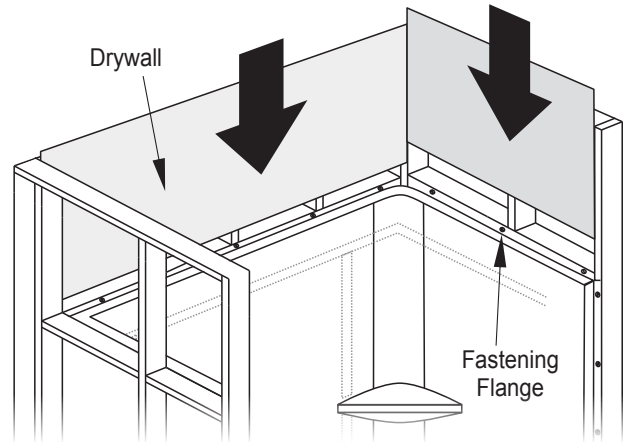

FIGURE 6A
- a. DOMELESS OPTION #1 – Drywall rests on the top of the tiling flange (**Figures 6a & 6b**).